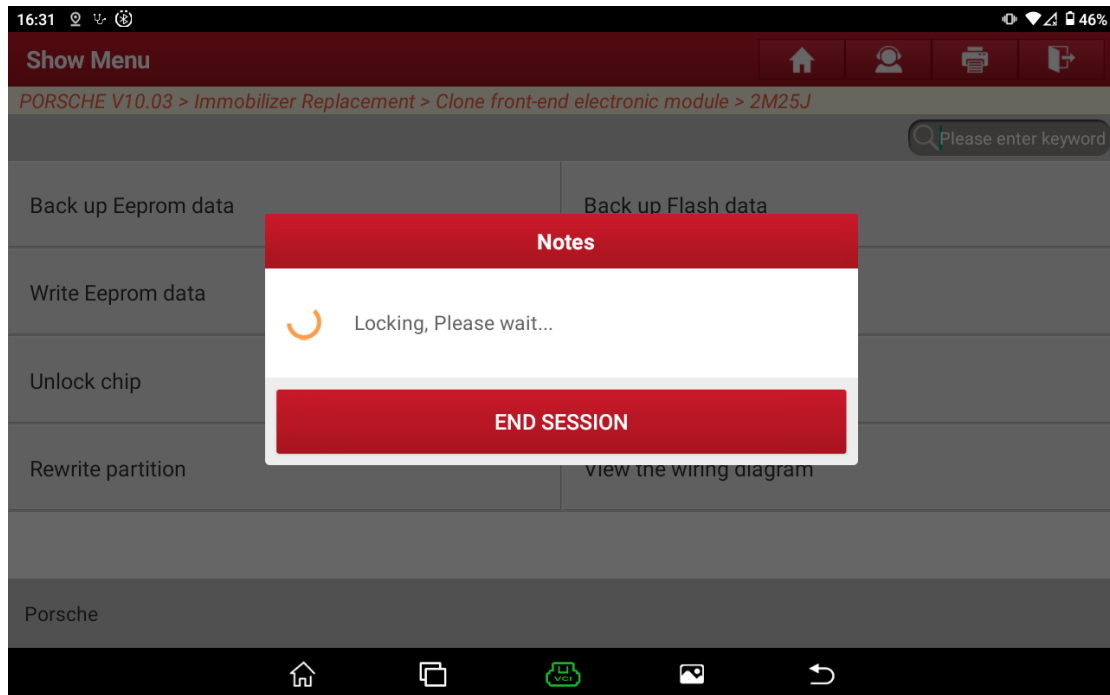

Figure 9
9. Choose [Unlock chip], as shown in Figure 9.